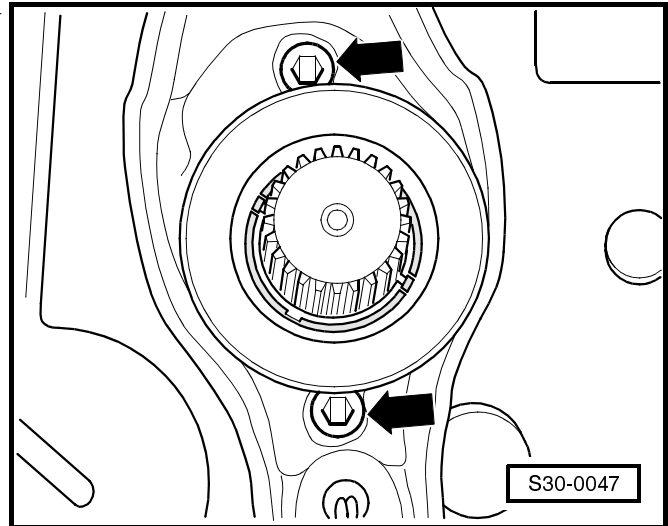

Fig. 2: Removing and installing the guide bushing
- removing and installing ⇒ Fig. 2 in **30-2** page 2